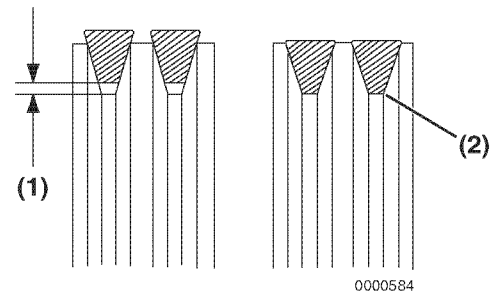

Figure 6
- Tighten the V-belt to the proper tension. There must be clearance (**Figure 6, (1)**) between the V-belt and the bottom of the pulley groove. If there is no clearance (**Figure 6, (2)**) between the V-belt and the bottom of the pulley groove, replace the V-belt.